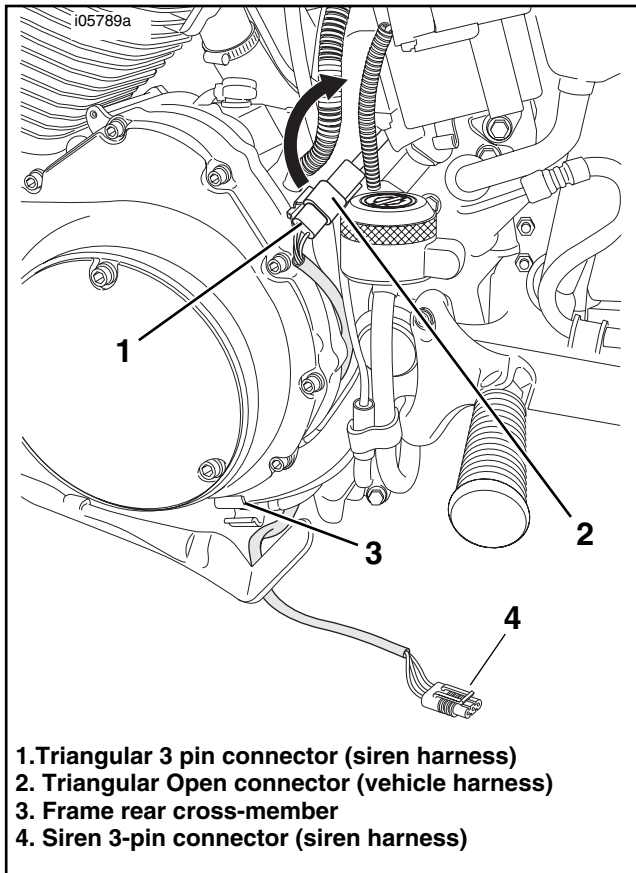

Figure 24. Connect the Siren Harness to the Vehicle Harness
1. See Figure 24. From the bottom of the motorcycle, route the triangular connector (1) of the Siren harness between the primary cover and frame tube, and plug the connector into the open security siren connector (2) on the vehicle harness. Tuck the connectors up along the battery and secure using a cable strap. Route the other end of the harness over the frame rear cross-member (3).